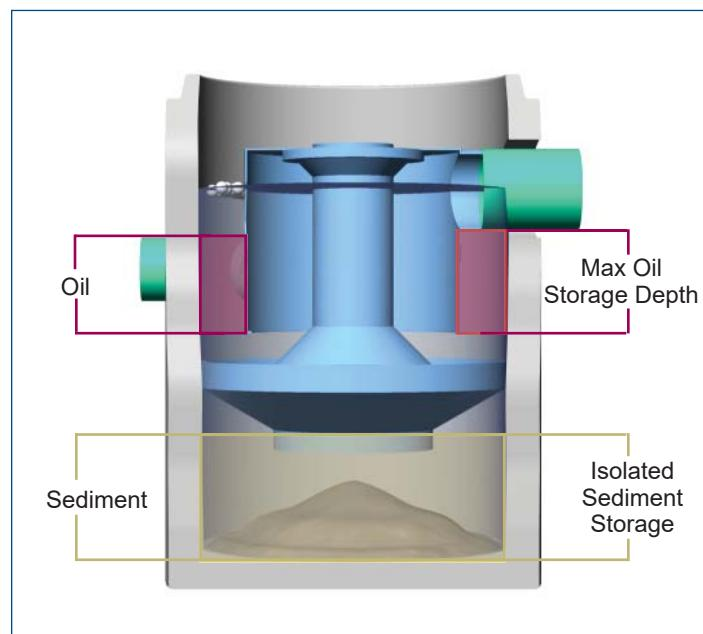

Fig. 1 Pollutant storage volumes of the Downstream Defender®.
1. Refer to Downstream Defender® Clean-out Detail (Fig. 1) for measurement of depths.